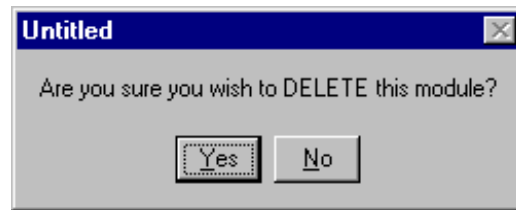

Figure 6-8: Delete Confirmation Dialog Box
3. Click on the connection. An Untitled delete confirmation box appears (Figure 6-8).
4. Choose the destination point you wish to disconnect and click OK. A dialog box appears (Figure 6-8) to confirm connection deletion.